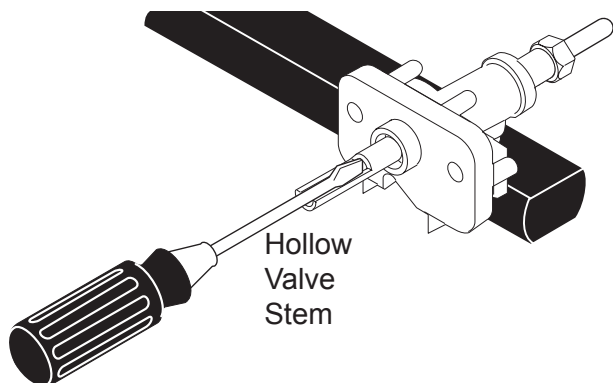

Figure 20
- Insert a thin-bladed screwdriver into the hollow valve stem and engage the slotted screw inside. Flame size can be increased or decreased with the turn of screw. Turn counterclockwise to increase flame size. Turn clockwise to decrease flame size (Figure 20). Adjust flame until you can quickly turn knob from LITE to lowest position without extinguishing the flame. Flame should be as small as possible without extinguishing.